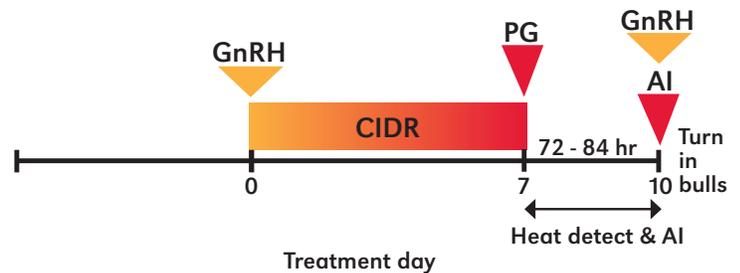

Figure 15. Select Synch + CIDR with HD and TAI.
**Select Synch + CIDR with HD and TAI** (Figure 15). This protocol incorporates the CIDR along with three separate injections. On day 0, cows are injected with GnRH and receive a CIDR. On day 7, the CIDR is removed and all cows receive an injection of prostaglandin. From day 7 through day 10 of the protocol, cows are observed for estrus and are inseminated 12 hours following estrus detection. Between 72 and 84 hours (3 to 3.5 days) following the prostaglandin injection, all cows not yet inseminated are given a second GnRH injection and are mass-inseminated (day 10 of the protocol).